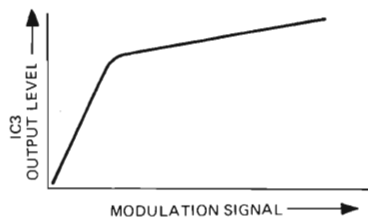

Fig. 2 Audio Limiter Characteristics
by the AF AMP (TR20) through the low pass filter (L10, L11) and TX (AM) switching (TR22). The output of IC4 is subjected to impedance matching by the output transformer (T1) and supplied to the TX FINAL and DRIVER stage. This modulation signal is detected at the secondary of T1 by the bias switching diode (D23) and makes collector current flow in TR23, AMC transistor. At this time, a voltage drop is developed across the resistor (R104) which causes collector voltage to decrease and forward bias current of both D21 and D22 is reduced. In other words, the output voltage of IC3 is clipped for both positive and negative. However, the clipped waveform as shown in Fig. 2-D causes the band-width to increase, thus a low pass filter (L10, L11), which has the characteristics as shown in Fig. 3, is used.